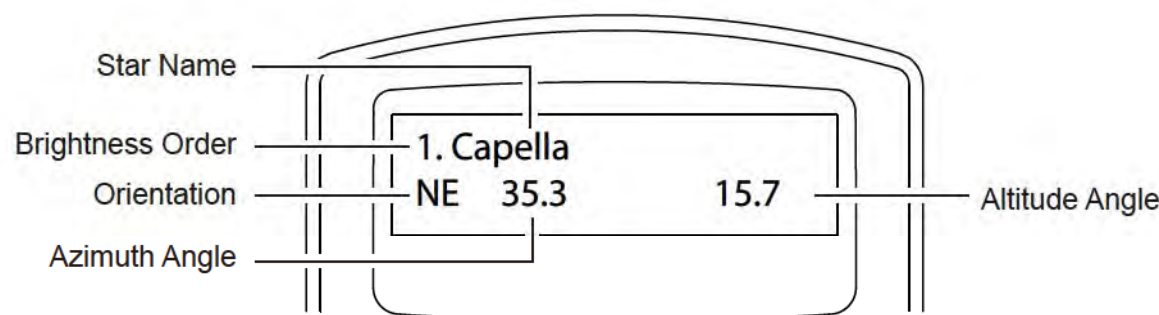

Fig. 3.4b
3. The hand control will generate a list of the bright stars within the selected horizontal region. The list is sorted by the brightness of the star and with the brightest stars at the top of the list. Users can use the scroll keys to browse the list. An example of the screen display is shown in Fig. 3.4b.